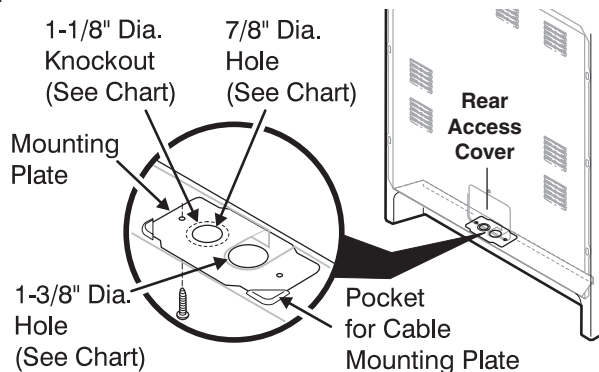

Fig. 9
See range connection opening size chart (Figs. 9 & 10) for cord kit ampere rating information. Terminals on end of wires must be either closed loop or open-end spade lugs with upturned ends.
The Rear Access Cover must be removed (Fig 9). To remove, loosen center screw (one screw) and remove cover. The terminal block will then be accessible.
**NOTE:** Range is shipped from factory with 1-3/8" dia. hole as shown. To use either 7/8" dia. hole or 1-1/8" dia. knockouts refer to Fig. 9.
- Follow the manufacturer's installation instructions supplied with the strain relief and install (Also see Figs. 9, 10 & 11).
- Make sure all screws are tightened securely and replace the rear access cover (See Fig. 9).
- Make sure all connections are tightened securely and replace the rear access cover (See Fig. 9).